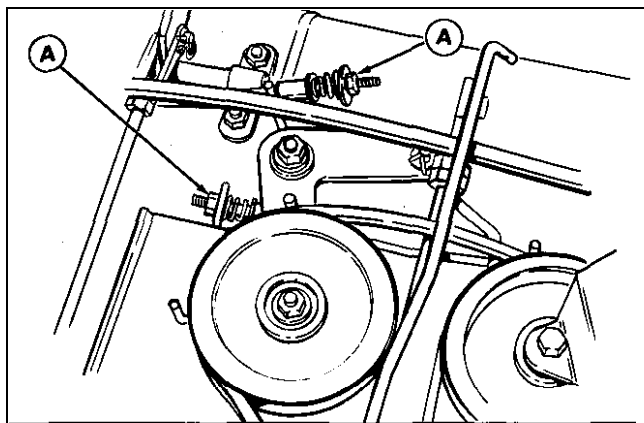

Figure 9D.
- c. If adjustment is required, turn adjusting nuts (A, figure 9D) until proper clearance is reached.